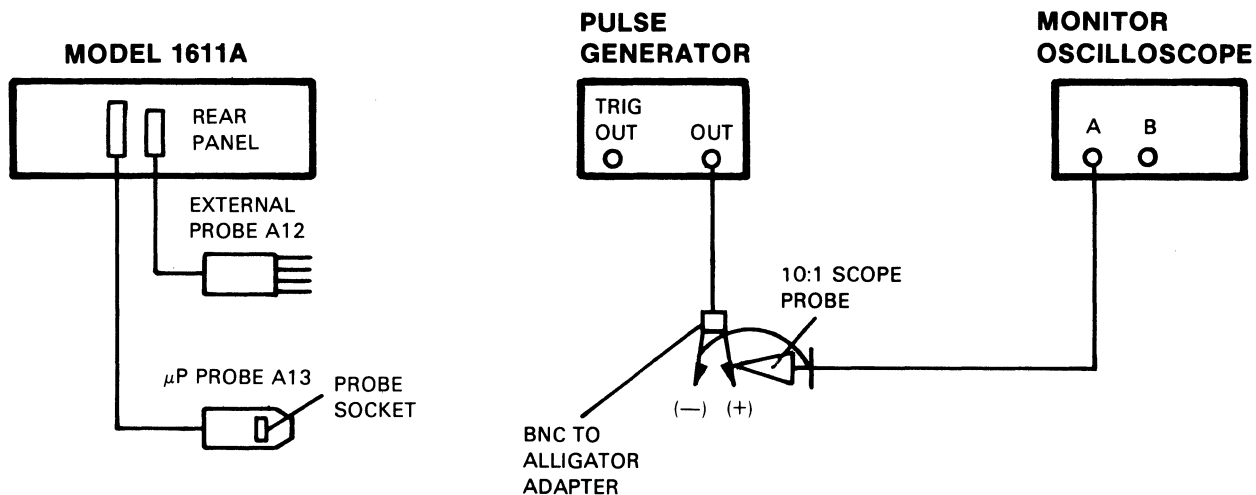

Figure 4-2. Clock Line Test Setup
- a. Connect test equipment as shown in figure 4-2.